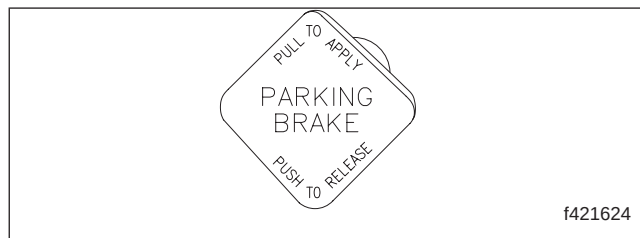

Fig. 9.7, Parking Brake Valve Knob
- 39.1 Release the parking brakes on the vehicle by pushing in the parking brake control valve knob. See Fig. 9.7. Check the air governor cut-in and cut-out pressures. Run the engine at fast idle. The air governor should cut out the air compressor at approximately 125 psi (862 kPa). With the engine idling, make a series of foot valve applications. The air governor should cut in the air compressor at approximately 95 psi (655 kPa). If the air governor does not cut in and out as described above, it must be adjusted to these specifications. If the air governor cannot be adjusted or repaired, replace it before operating the vehicle.